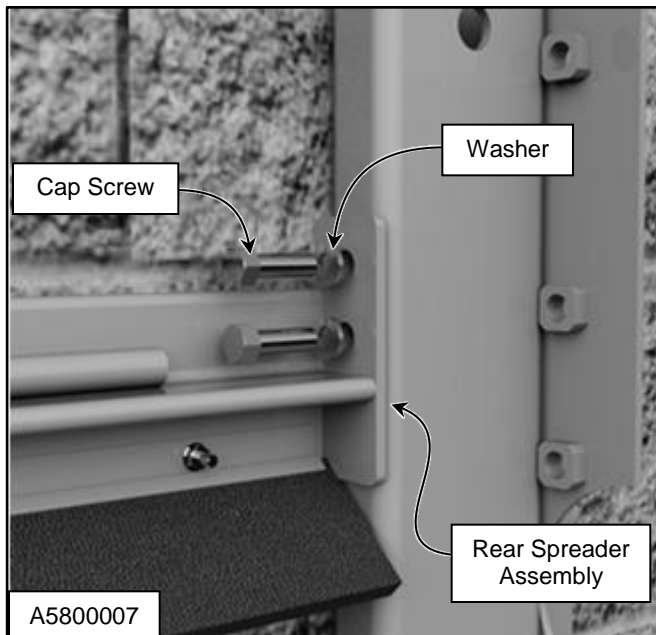

Figure 13
6. Install rear spreader assembly between the two side columns using four $\frac{1}{2}$ x 1-in. hex head cap screws and $\frac{1}{2}$ -in. lock washers. (See Figure 13)